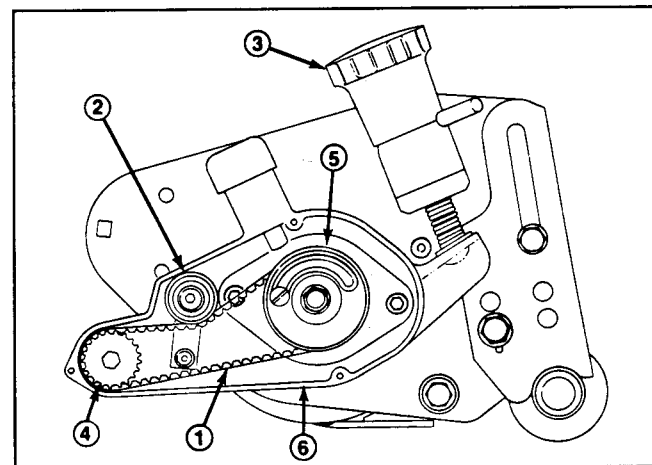
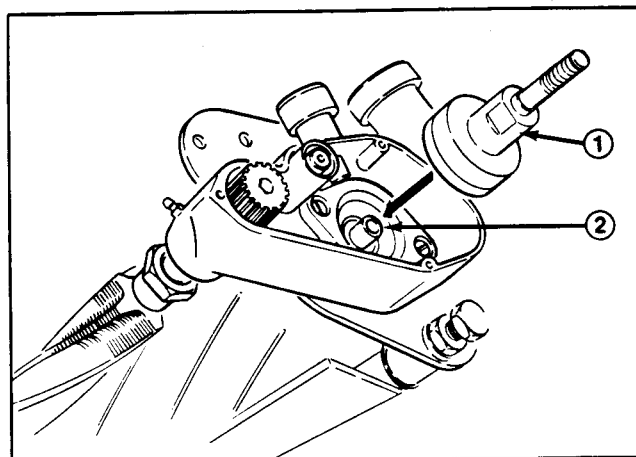

Figure 40
Figure 49
3. Remove grooming reel adjustment knob assembly from groomer housing (Fig. 40).
4. Loosen idler pulley (Fig. 40). Remove nut and washer from clutch adapter shaft. Pull clutch assembly off adapter shaft and slide belt off driven pulley. Remove clutch adapter from reel shaft (Fig. 49).
5. Remove driven pulley from groomer shaft (left-hand thread) (Fig. 40).
16. Install groomer reel driven pulley to groomer reel shaft (left-hand thread) and tighten to 29 - 35 ft-lb (Fig. 40).
17. Install clutch adapter on reel shaft and tighten to 170 - 210 in-lb (Fig. 49). Hold belt on drive pulley and slide clutch assembly on clutch adapter while sliding belt onto driven pulley (Fig. 40). Install washer and nut (removed in step 4) on clutch adapter shaft. Use a block of wood to keep reel from rotating and tighten nut to a torque of 7 - 10 ft-lb.
18. Install grooming reel adjustment knob assembly to left side groomer housing (Fig. 40).
5. Remove clutch adapter from reel shaft if necessary (Fig. 49).
3. Install clutch adapter to reel shaft (Fig. 49). Tighten clutch adapter to a torque of 170 - 210 in.-lb.